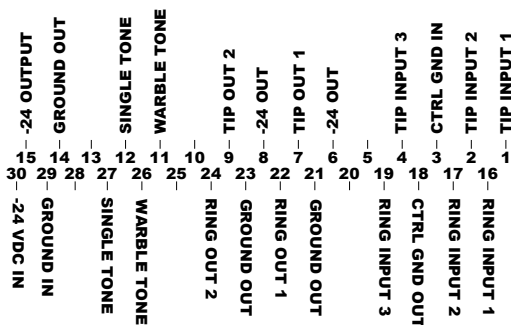

FIGURE 4
Refer to Figure 4 for location of volume controls. Test the system and adjust the controls as follows:
- ___ 5. Referring to Figure 4, set the volume control on the V-9942 to approximately 1/2.
- ___ 6. Set the tone select switches (Figure 4) to determine which outputs will receive tones (OFF: No tones; ON: Tones).